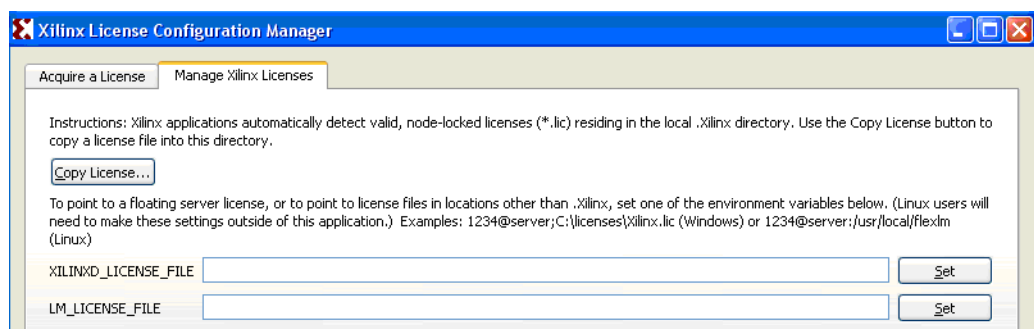

Figure 13: License Configuration Manager
4. Start the Xilinx License Manager (Figure 13) (Start > Programs > ISE Design Suite 11 > Manage Xilinx Licenses) and click on "Copy License" to install the license on your computer.